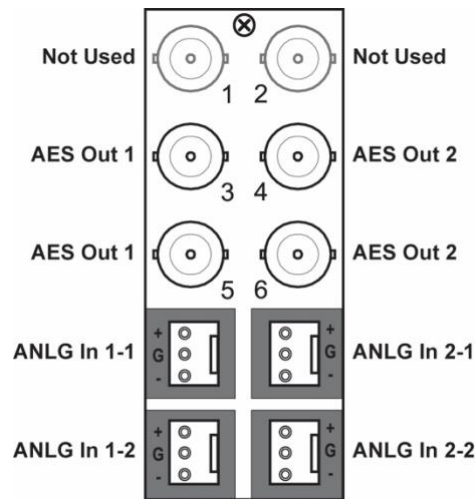

Figure 2.2 Cable Connections for the R2-6021-ADC-2AESU Rear Module
- **R2-6021-ADC-2AESU Full Rear Module** — Each module occupies two slots and accommodates one card. This rear module provides four 75ohm AES/EBU outputs, and one stereo analog audio input. (**Figure 2.2**)